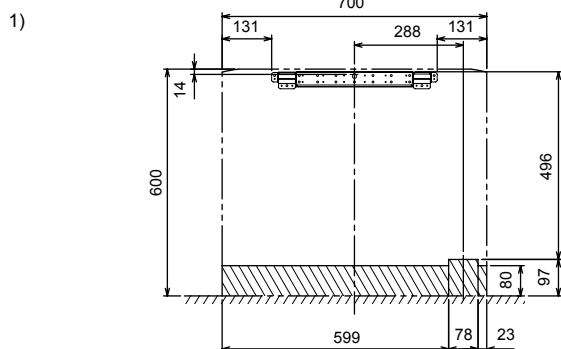

Fig. 3-7
1) For rear or left-rear piping (Fig. 3-7)